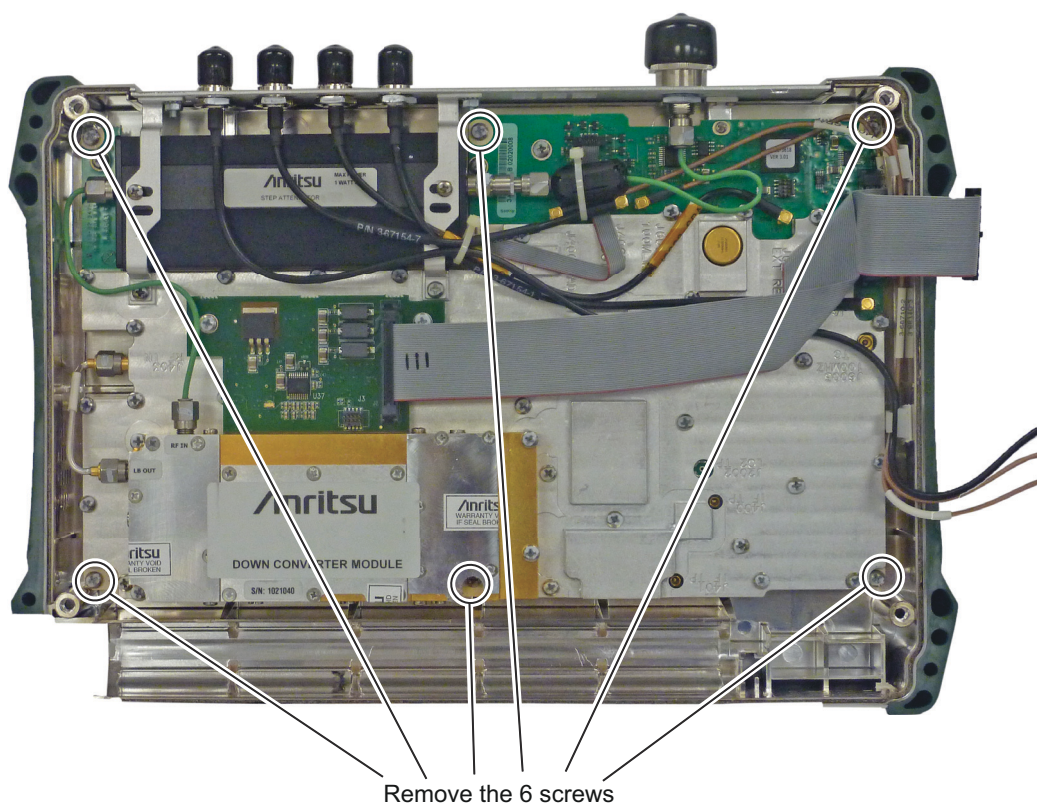

Figure 5-6. Spectrum Analyzer PCB Assembly
3. Use a Torx T10 screwdriver to remove the six screws securing the Spectrum Analyzer Module Assembly to the back half of the instrument case (Figure 5-6).